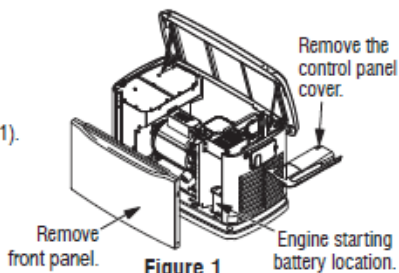

Figure 1
2. Remove front panel. Remove fasteners securing control panel cover and set aside (Figure 1).